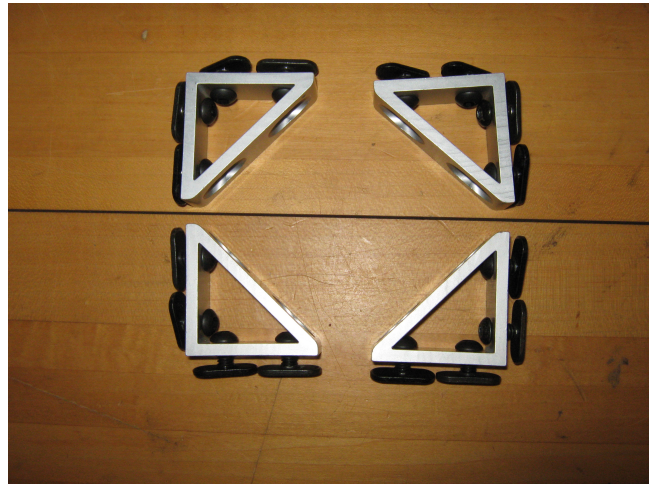

Figure 4: Angle brackets with sliders.
2. Put 1/4-20 bolts and sliders on all the angle brackets, as shown in Figure 4. Do not tighten them down.